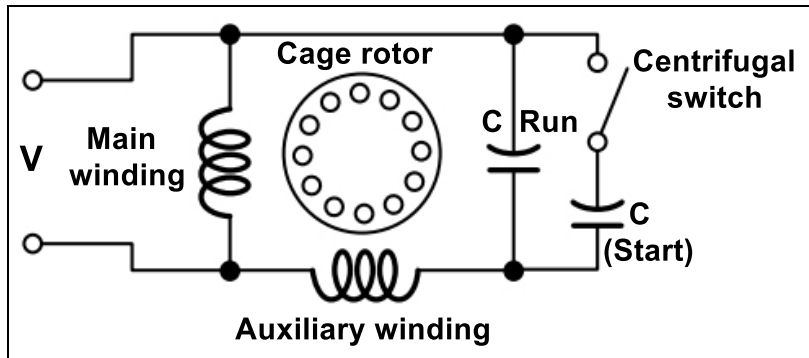

Fig. 1.1-19 Capacitor-Start-Run Motor
- **Capacitor-start-run motor** (Fig. 1.1-19)